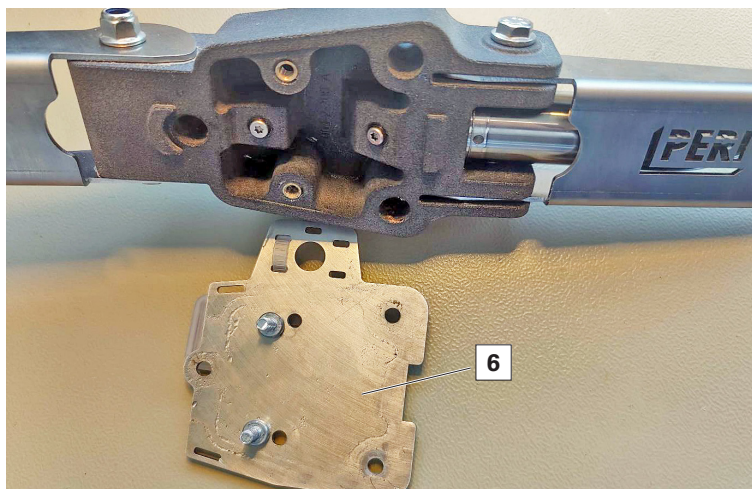

Fig. 11
25. Once the unit is leak-tight, screw the base plate (6) back on. (Fig. 11)